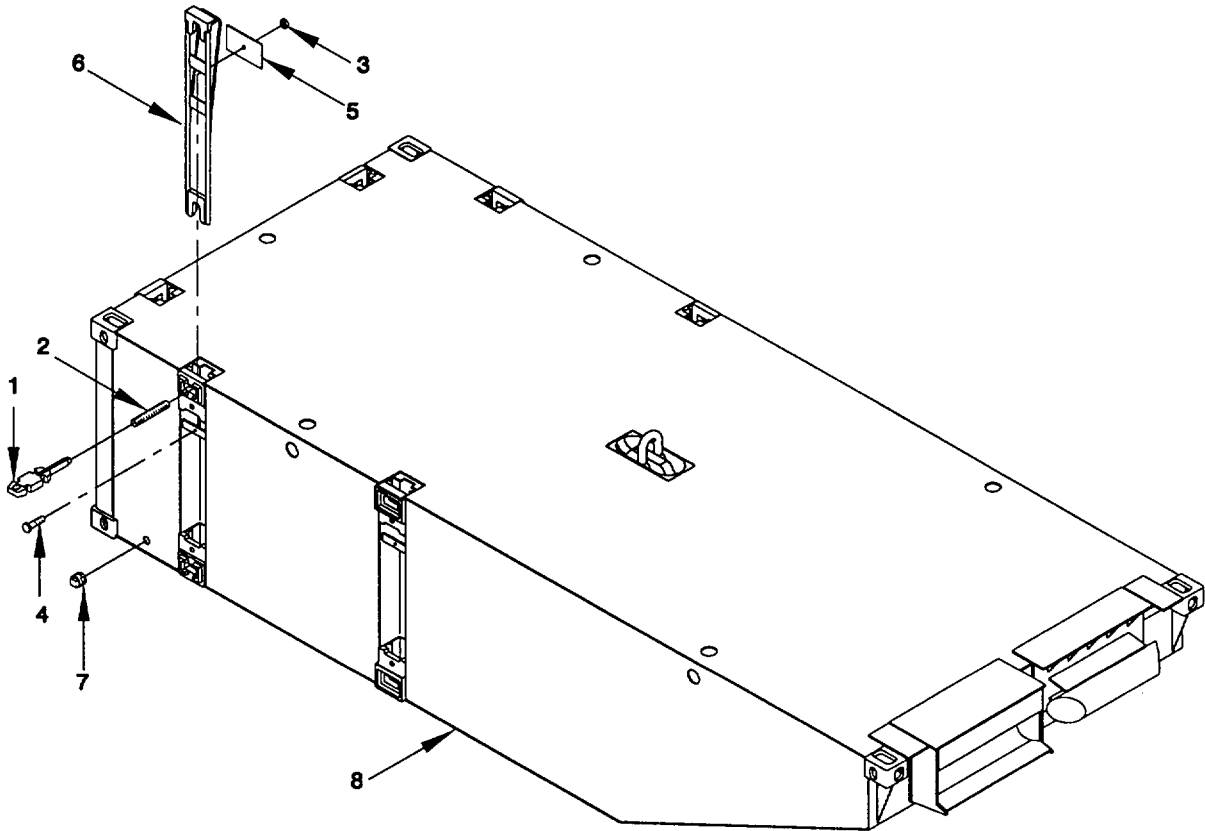

Figure 2-89. P20CR 20' Center Raked Pontoon Assembly, Service/Repair.
a. Service. (figure 2-89)
(1) Check connector assemblies.
(2) Push up on retainer on underside of connector pin to release pin from male connector assembly housing. Remove connector pin to expose deployment spring. Remove spring and inspect spring for cracks or cuts (replace as necessary) Lubricate spring using a light coat of lubriplate grease.
(3) Use a sponge to remove water from lift shackles.
(4) Wire brush and spot paint any exposed or rusting surfaces.
b. Repair. (figure 2-89)**NOTE**